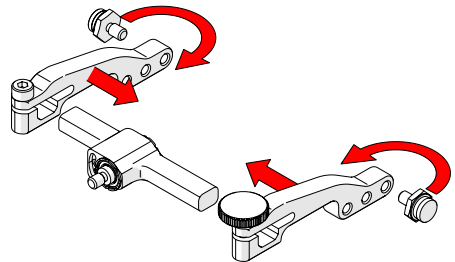

Fig. 63 - Attach arms and move buttons
4. Place the pivot buttons on the inside of the probe holder arms (Fig. 63) using a 3/8 in wrench (Fig. 16). Slide the arms onto the yoke and tighten the probe holder arm adjustment knob and the arm clamp screw.